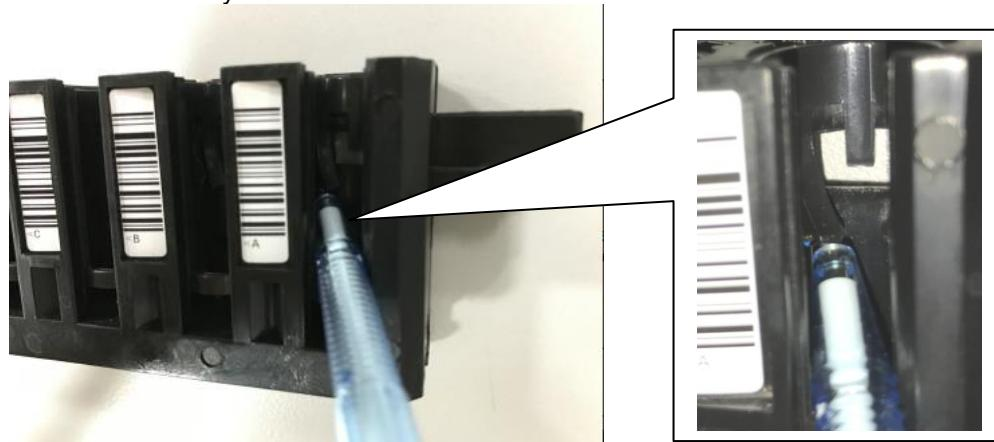

Figure 15.3-1 Adjust the Metal Dome Inside the Slot
1. Take a ball-point pen; insert its tip below the retainer of metal plate inside the sample rack slot, as shown in Fig. 15.3-1; then, apply gentle force to make the retainer up warp;